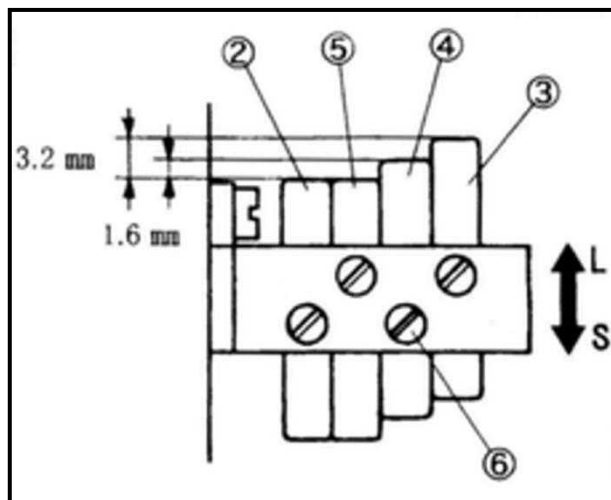

Fig.37
- (2) 第一片②要跟右边第四根针的线平齐。(Fig.37)
- (3) 第四片③离第一片②的高度为 3.2mm。
- (4) 第三片④离第一片②的高度为 1.6mm。
- (5) 第二片⑤离第一片②的高度为 0.8mm。
- (6) 对准后锁紧螺钉⑥。
- (2) Set the top of pin② even with the needle thread as the fourth right needle. (Fig.37)
- (3) Set the pin③ 3.2 mm higher than the pin②.
- (4) Set the pin④ 1.6 mm higher than the pin②.
- (5) Set the pin⑤ even with or 0.8 mm higher than the pin②.
- (6) Tighten the screws⑥ securely.